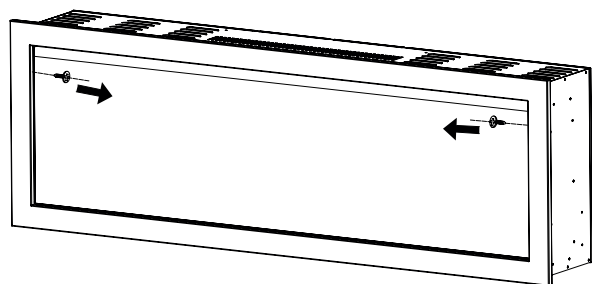

Figure. 1-1
- ① Remove the top screw from both interior sides of the front trim. (Fig. 1-1).